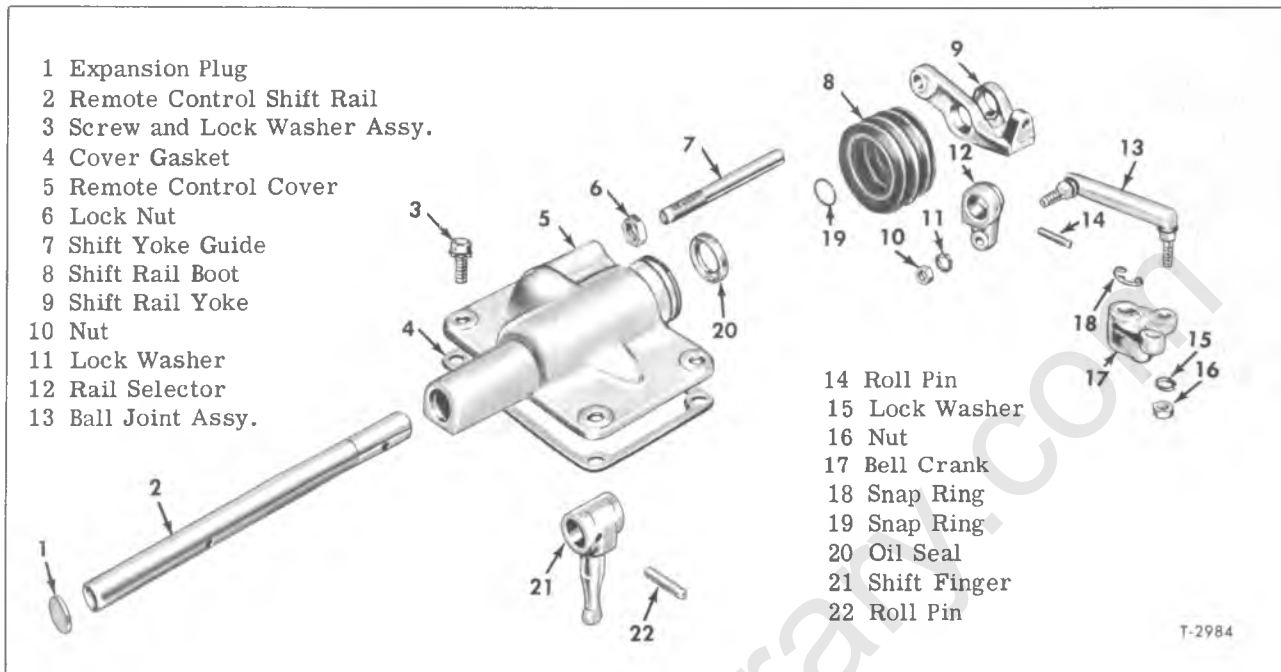

Figure 3—Remote Control Assembly (New Process 435)
Tilt cab vehicles have transmission remote control assemblies as shown in figures 3 and 4. Should parts become worn or defective make repairs as described in the following text:
NOTE: Key numbers in text refer to figure 3.
1. Press or drive shift rail yoke housing out of bore in shift rail yoke (9, fig. 3).